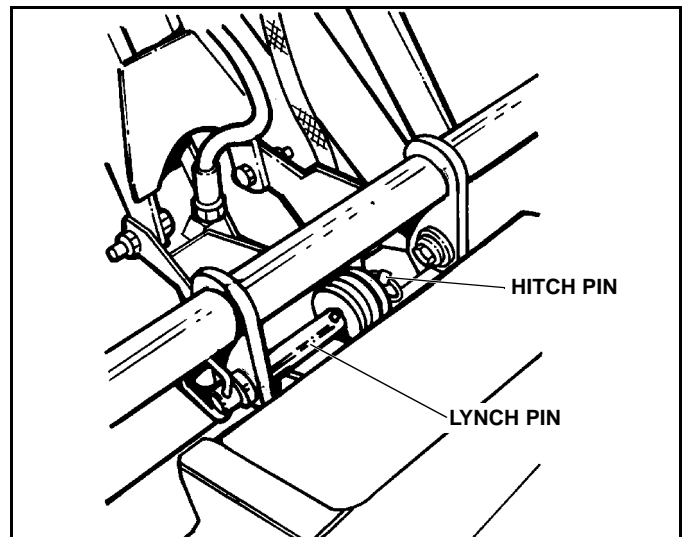

Figure 1-3
7. Align lift bar assemblies and install center pivot Hitch Pin, install Lynch Pin into Hitch Pin to secure it in place. See Figure 1-3.